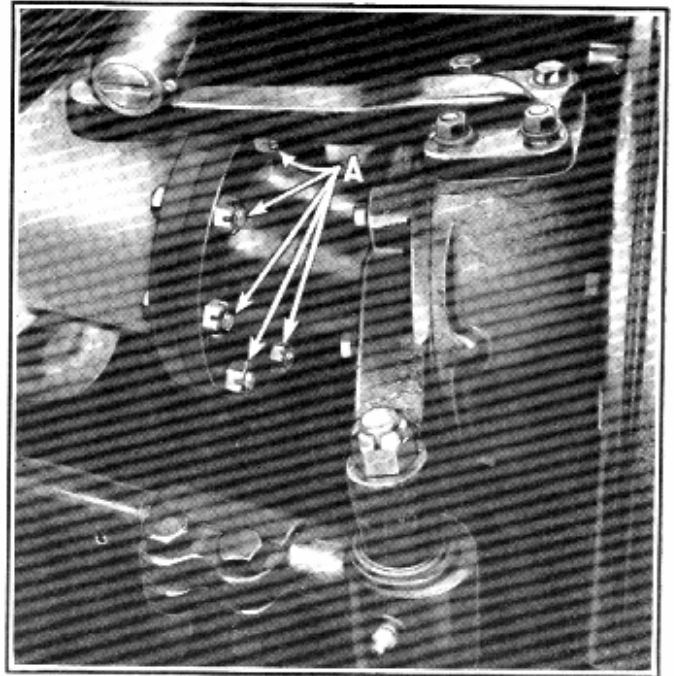

Fig. 6—Steering End Removal, 3" Joint
bly may be removed, it is only necessary to remove the bolts "A", Figs. 6 and 7, disconnect the drag link and the tie rod on the right side.
3. Remove the bolts "A", Figs. 6 and 7. The